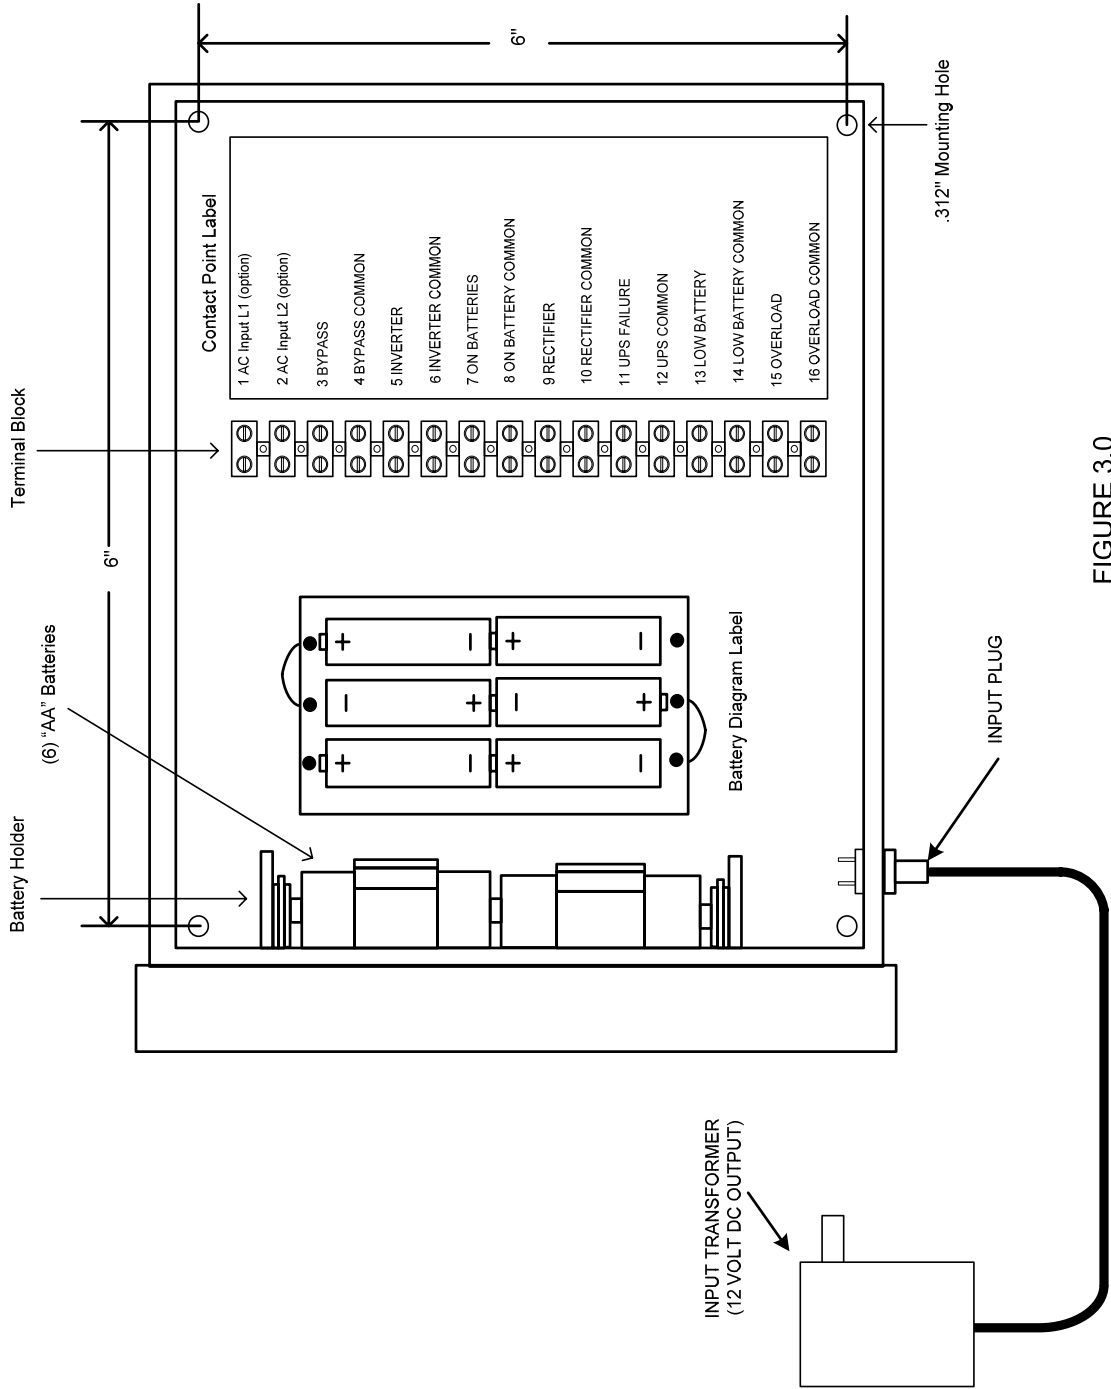

FIGURE 3.0
6. Referring to Figure 3.0, install (6) AA batteries. Batteries will provide about eight (8) hours of run time in the event of an AC power failure. Replace these batteries yearly for optimum performance.